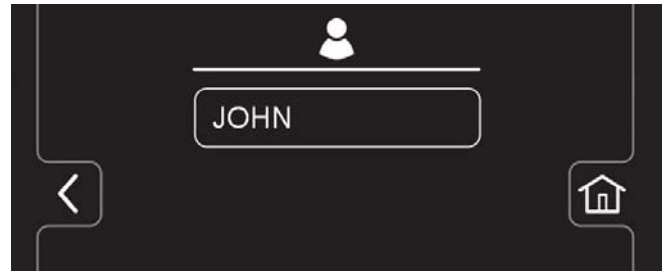

FIG. 175
7. The new user profile is now saved to the operator profile list as shown (Figure 175). Multiple Operator and Supervisor user profiles can be added. Press the back arrow to return to the previous screen to add more user profiles.